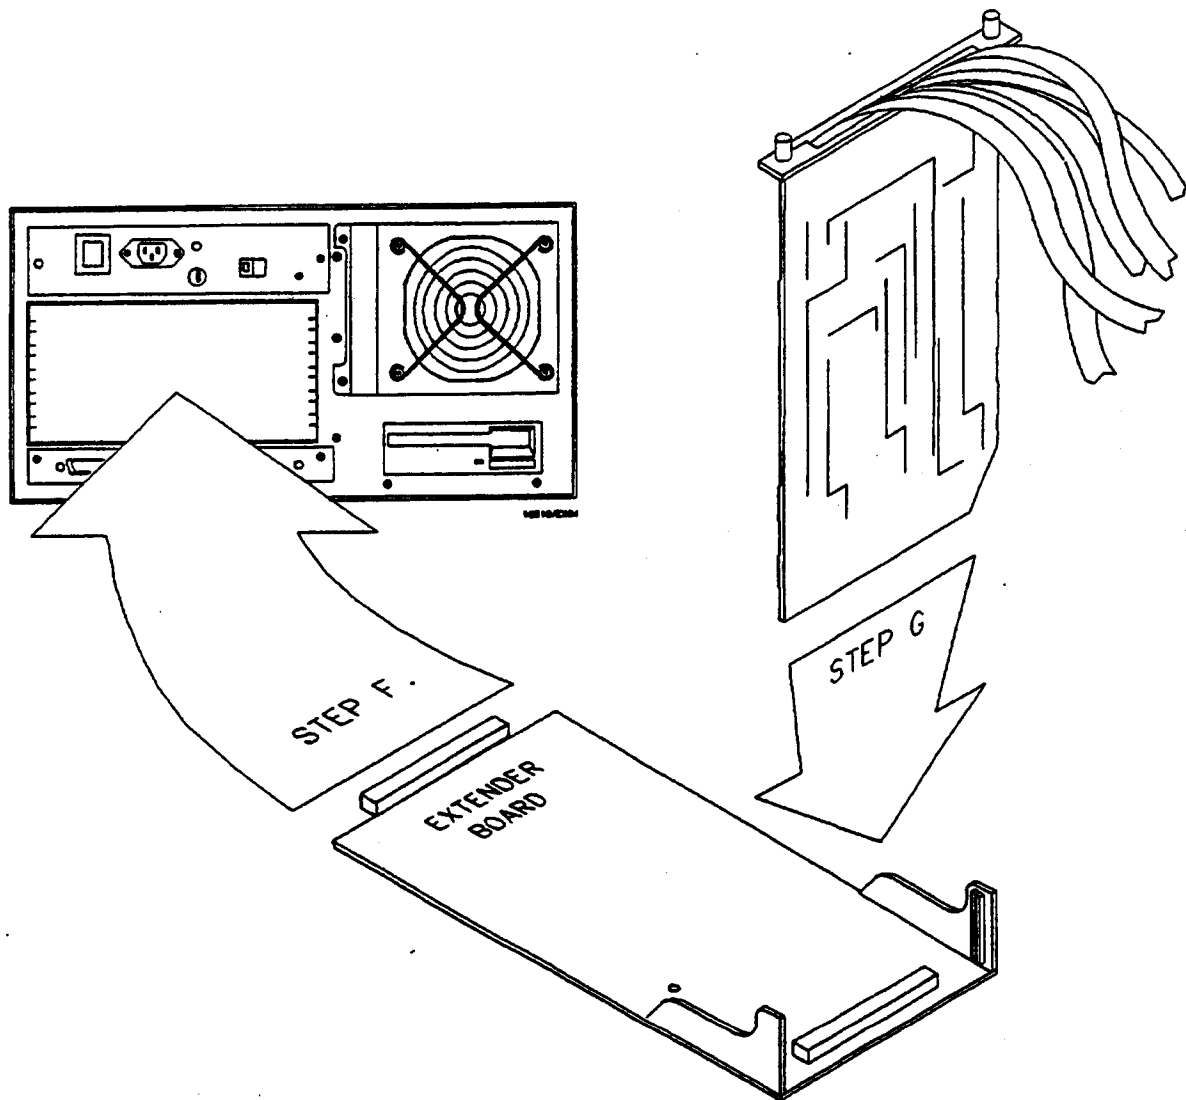

Figure 4-2. Extender Board And Module
- g. Plug HP 16510B card into extender board. See figure 4-2.